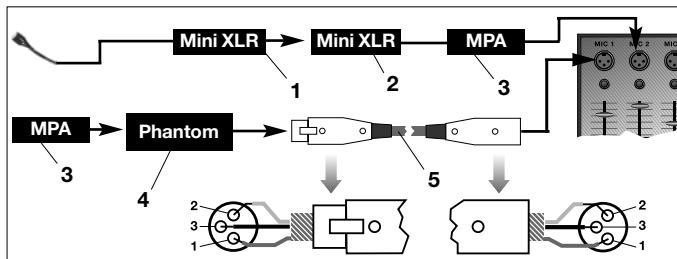

Fig. 4: Connection diagram with MPA III L.
Refer to fig. 4.
- Refer to fig. 4. 4. **If your mixer provides no phantom power:** Connect the MPA III L (3) to an optional AKG phantom power supply (4) (N 62 E, N 66 E, B 18, B 15) and use an XLR cable (5) (e.g., an optional MK 9/10 from AKG) to connect the phantom power supply (4) to the desired balanced input.